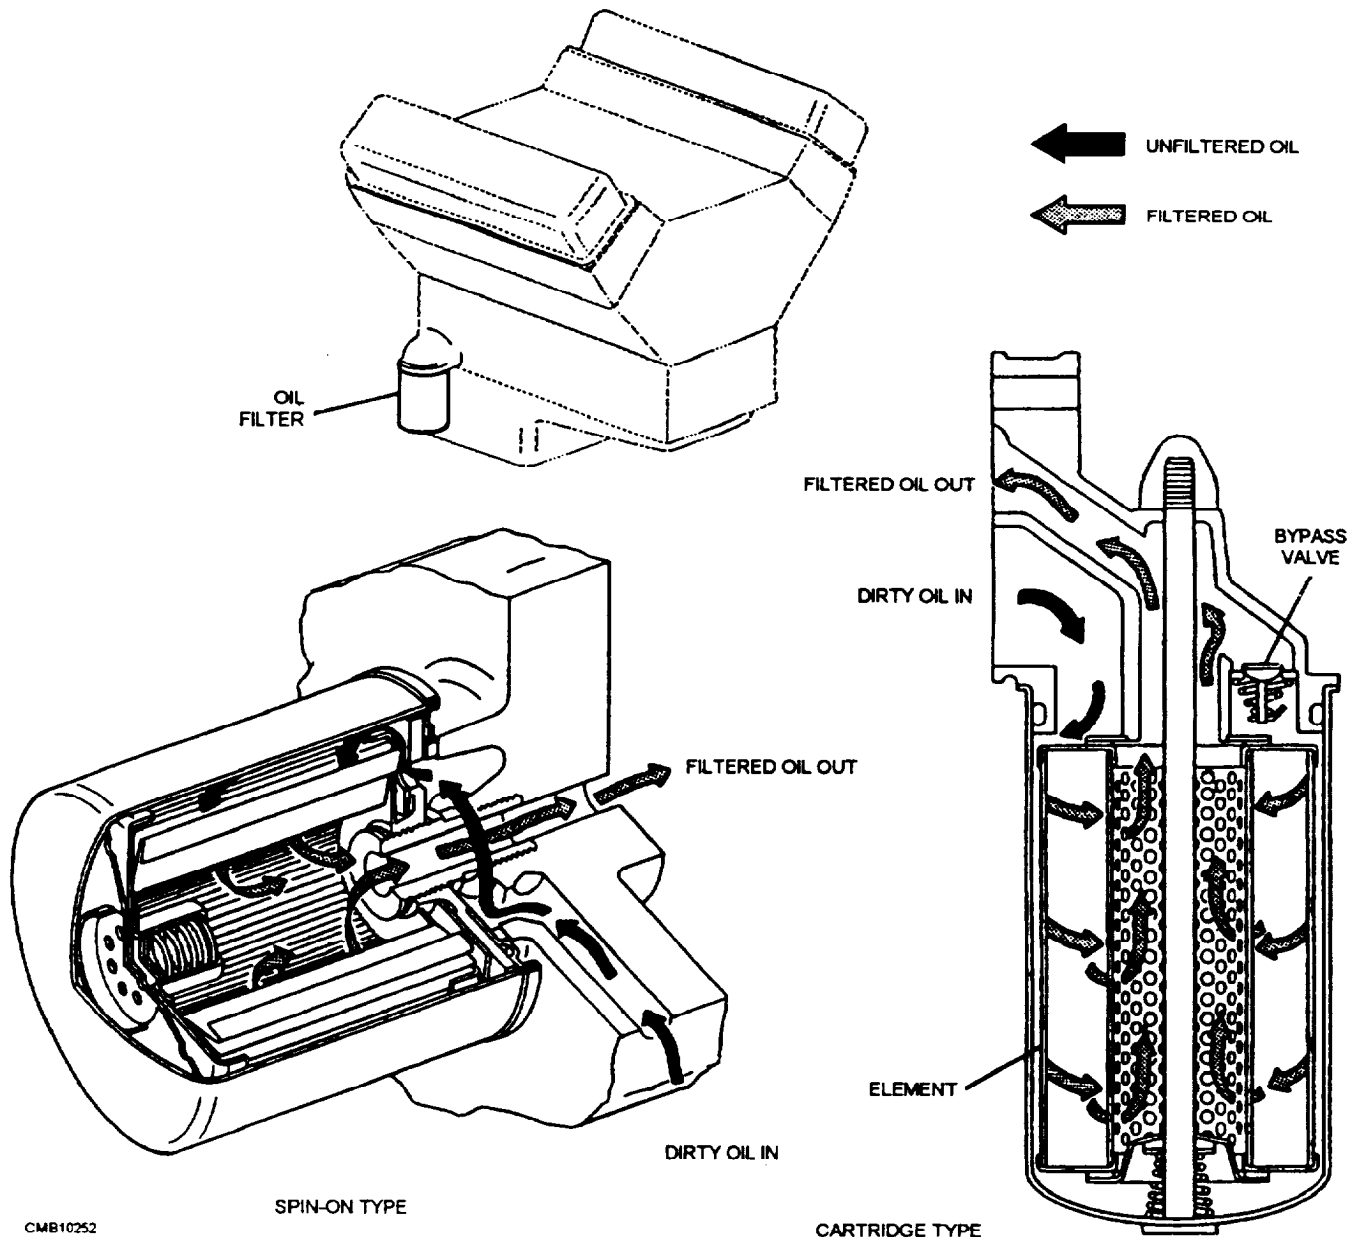

Figure 6-24.—Oil filters.
1. The cartridge-type element (fig. 6-24) fits into a permanent metal container. Oil is pumped under pressure into the container where it passes from the outside of the filter element to the center. From here, the oil exits the container. The element is changed easily by removing the cover from the container.
2. The spin-on filter (fig. 6-24) is completely self-contained, consisting of an integral metal container and filter element. Oil is pumped into the container on the outside of the filter element. The oil then passes through the filter medium to the center of the element where it exits the